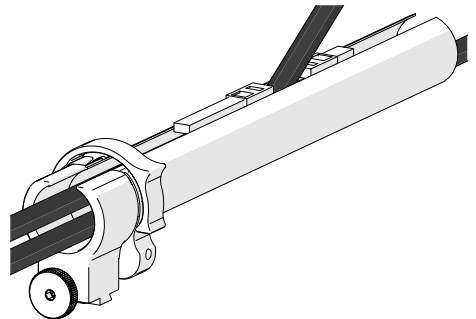

Fig. 36 - Flexibility
4. When necessary, the two zippers may be opened to allow cables to exit the sleeving anywhere between the ends (*Fig. 36*).